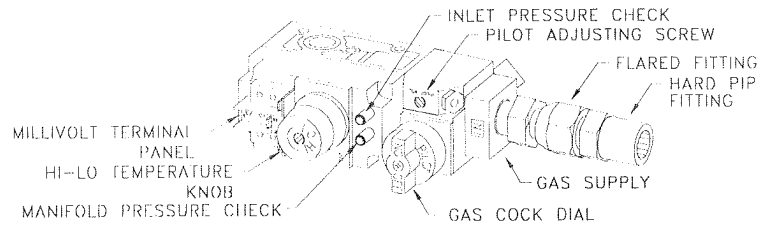

Figure 8: Gas Valve
4. Wait five (5) minutes to allow gas which may have accumulated in main burner compartment to escape. If you smell gas STOP.
5. Turn Gas Cock Dial Counterclockwise to "PILOT" position (see Figure 8: Gas Valve).
12. To reduce heat output, turn Hi/Lo Knob counterclockwise to desired temperature (see Figure 8: Gas Valve). Heat output can be reduced by up to 11,000 BTUH (1/3). Blower can also be turned down.
2. For complete shutdown turn Gas Cock Dial (see Figure 8: Gas Valve) to "OFF".